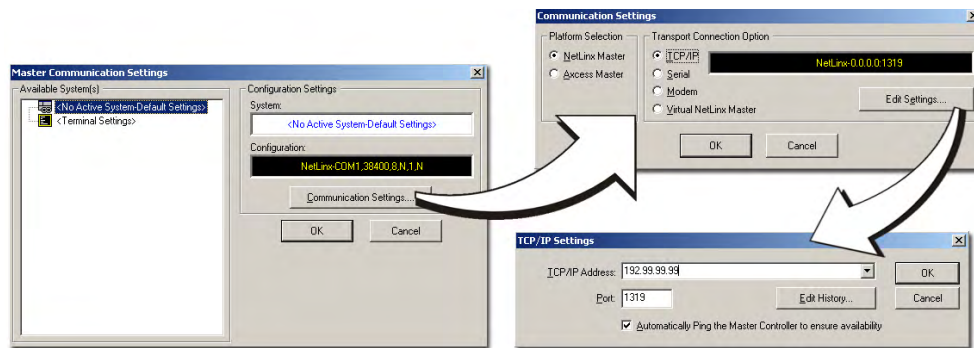

FIG. 31 Assigning Communication Settings and TCP/IP Settings
3. Select **Settings > Master Communication Settings** from the Main menu to open the Master Communication Settings dialog (FIG. 31).
7. Click the **Edit Settings** button (*on the Communications Settings dialog*) to open the TCP/IP Settings dialog (FIG. 31).